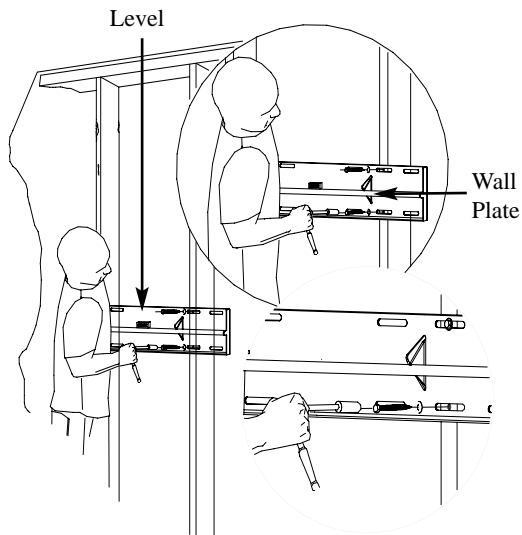

Figure 11
1. Level and secure the plate to the wall with the reference arrow facing up to the ceiling (Figure 11).